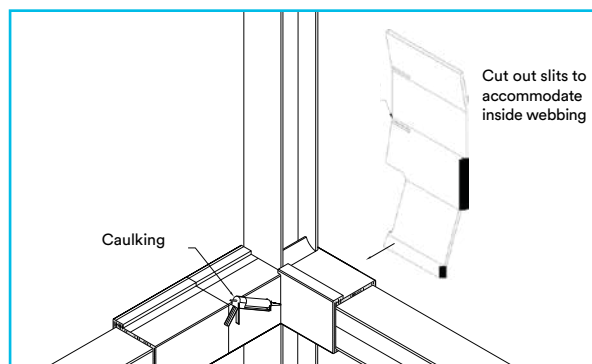

Figure 2
- 2 For the beam that interfaces with the web of the column, a similar procedure should be implemented. Make cut outs and slits from the E-Mat and wrap in and around the perimeter of the beam, with the cut-out tabs abutting tightly to the web of the column (*Figure 2*). This section of E-Mat should be tightly abutted to the first section eliminating all possible gaps. If a gap of more than 3 mm ($\frac{1}{8}$ in) remains in the perimeter joint between sections of E-Mat, the gap is to be filled to the full depth of the E-Mat with 3M™ Fire Barrier Water Tight Sealant 3000 WT.